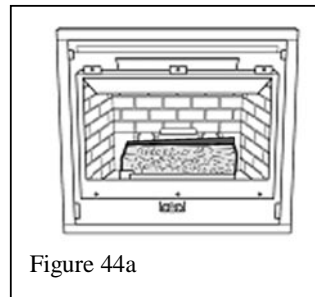

Figure 44a
2. Place wedge piece in position locating on the two pins located in the ash bed. See figure 44a.